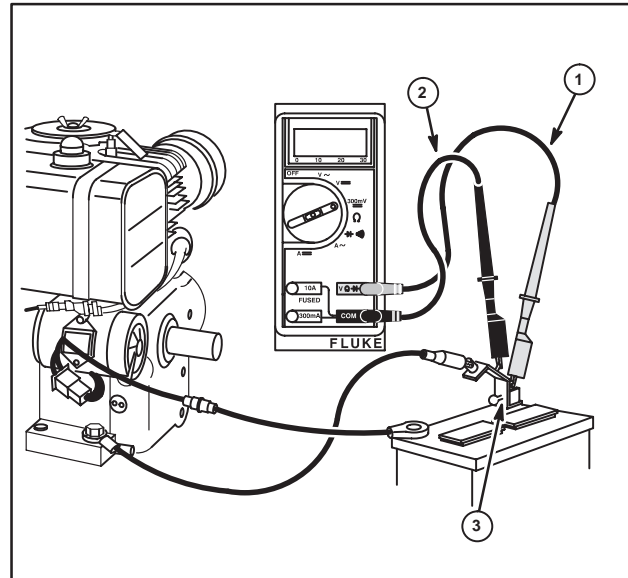

Fig. 34
The DC Shunt **must** be installed on the – (**negative**) terminal of the battery, Fig. 34. All connections must be clean and secure.
2. Insert RED test lead (1) into $V \Omega \rightarrow +$ receptacle in meter and connect to RED post terminal on shunt, Fig. 34.
3. Insert BLACK test lead (2) into COM receptacle in meter and connect to BLACK post terminal on shunt.
5. Attach RED test lead clip to DC output terminal on regulator-rectifier, Fig. 34.